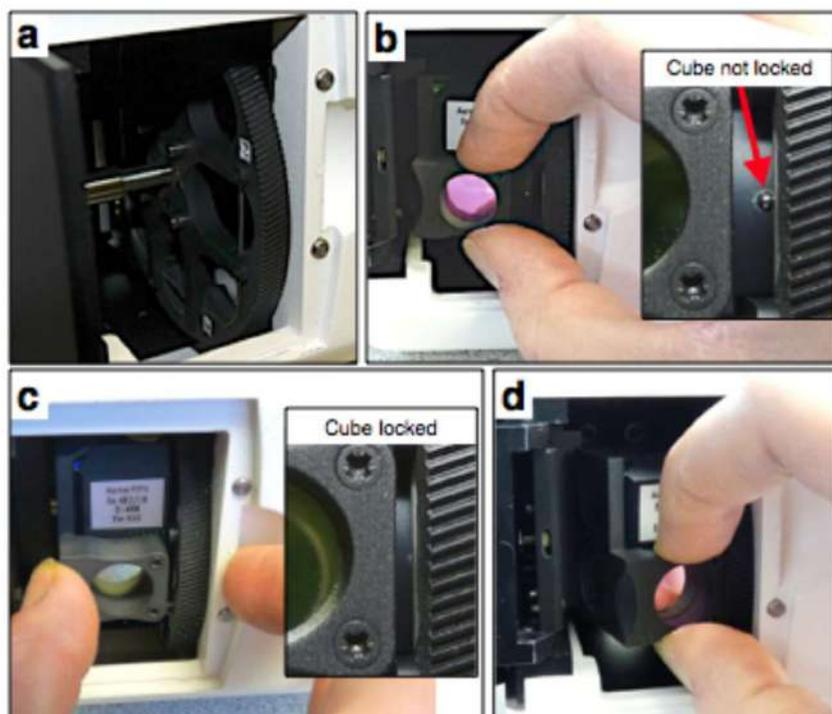

Figure 5.4.4 Inserting and removing filter cubes: (a) filter turret, (b) filter cube insertion, (c) filter cube locking, (d) removing a filter cube
3. Select the desired turret position, figure 5.4.4 (a) by rotating the wheel gently by hand.
4. Insert the filter cube along the guiding spokes of the filter turret until the locating magnet pulls the filter cube, figure 5.4.4 (b). The insert of figure 5.4.4(b) shows that the cube has not been pushed beyond the turret retaining spring and is therefore not locked in place yet.
5. Lock the filter cube in place by pushing it against the filter turret, figure 5.4.4 (c), insert shows that the cube has been pushed beyond the turret retaining spring and is therefore locked.
1. Pull the filter cube outward by holding the side grip as shown in figure 5.4.4 (d)